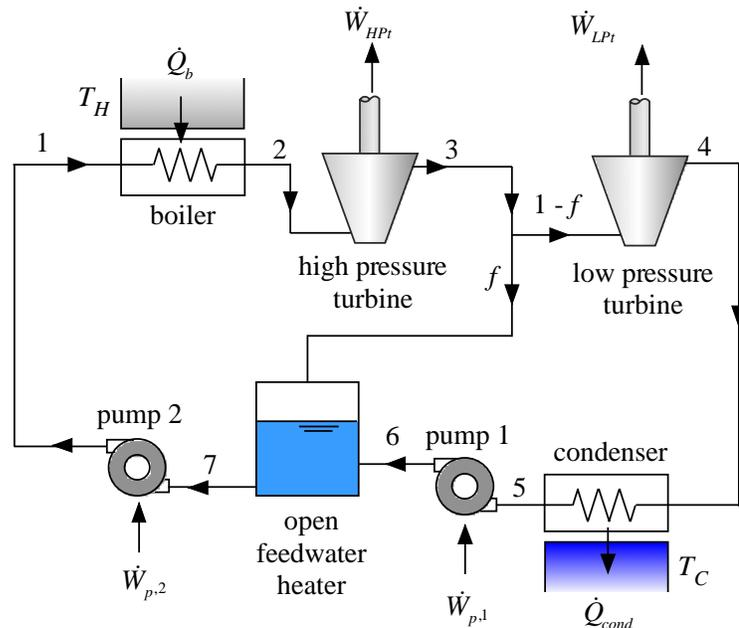

Figure 8.A-2: Rankine cycle with reheat.
8.A-2 Figure 8.A-2 illustrates a Rankine cycle with an open feedwater heater that uses water as the working fluid.